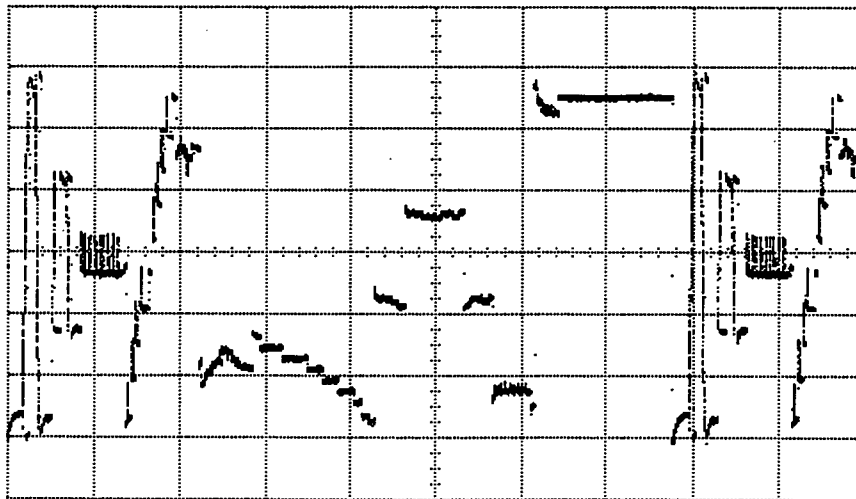

Figure 5-30. Y-Amplifier Auxiliary Output
d. Monitor A81 J4 Pin 2 and check oscilloscope for a display as shown in figure 5-30.